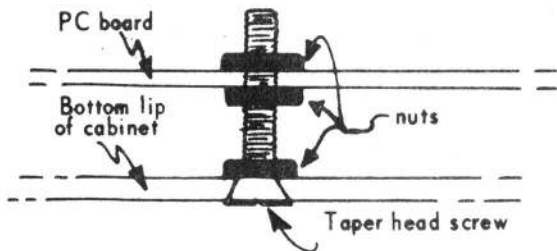

Fig. 10b P.C. mounting.
- () 28. Use a taper reamer on these holes so that the taper head screws will mount flush with the lip and not obstruct installation of the bottom cover. Mount each of the four taper headed screws with two nuts on the underside and one on the top side. (See fig.10b) The first nut is used to secure the screw tight to the cabinet lip. The second one is adjusted to the proper height and serves as a "stop" for the P.C. board to rest on. The third one on the top side holds the board in place.